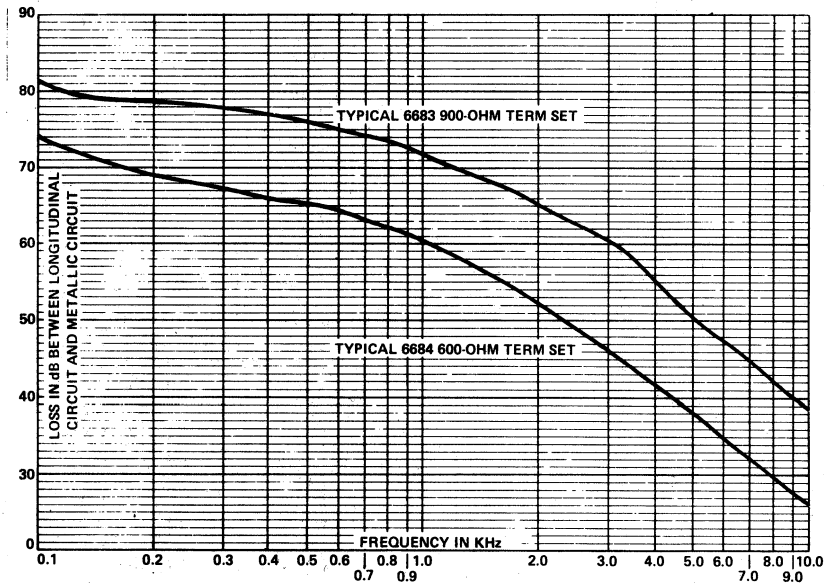
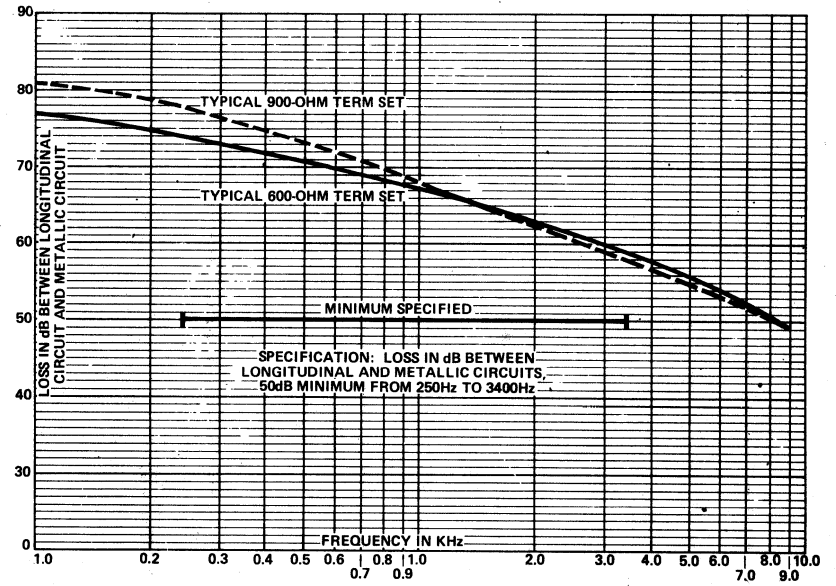

Figure 17. Longitudinal Balance Specification for 6683 and 6684
Figure 18. Longitudinal Balance Specification for 6685
- (j) LONGITUDINAL BALANCE: As specified graphically. Refer to Figure 17 for the 6683 and 6684 and to Figure 18 for the 6685.